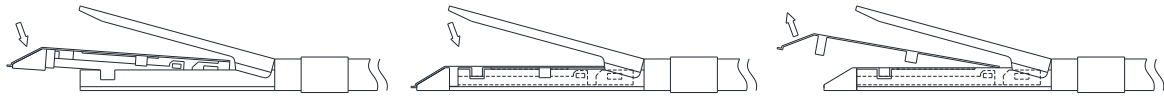

Figure 3-4
- 6) Place the new cartridge against the bottom of cartridge jaw and insert it in a sliding manner until the cartridge alignment stops in the cartridge alignment slot. Clamp the cartridge firmly in place, remove the cartridge protective cover and discard it. The device is now fitted with Ti staple and can be used immediately (Figure 3-4).